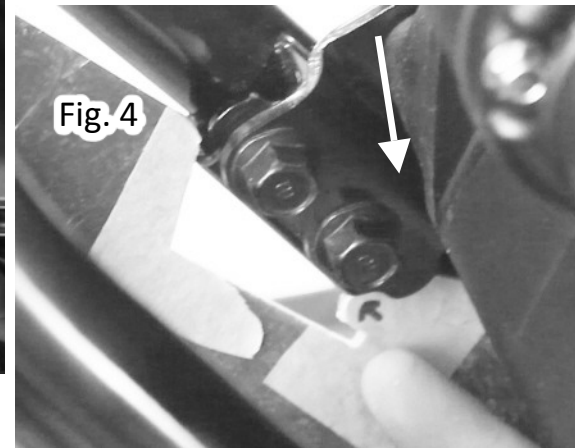

Fig. 4
- 5 On other side slide hook up and around bracket. Fig. 4